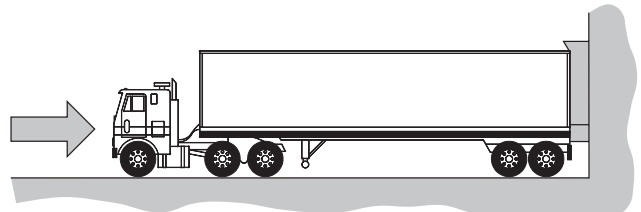

Figure 4: Trailer parked at dock
5. After the suspension is exhausted, release the parking brake and immediately, but slowly move the trailer to re-establish contact with the loading dock, Figure 4.